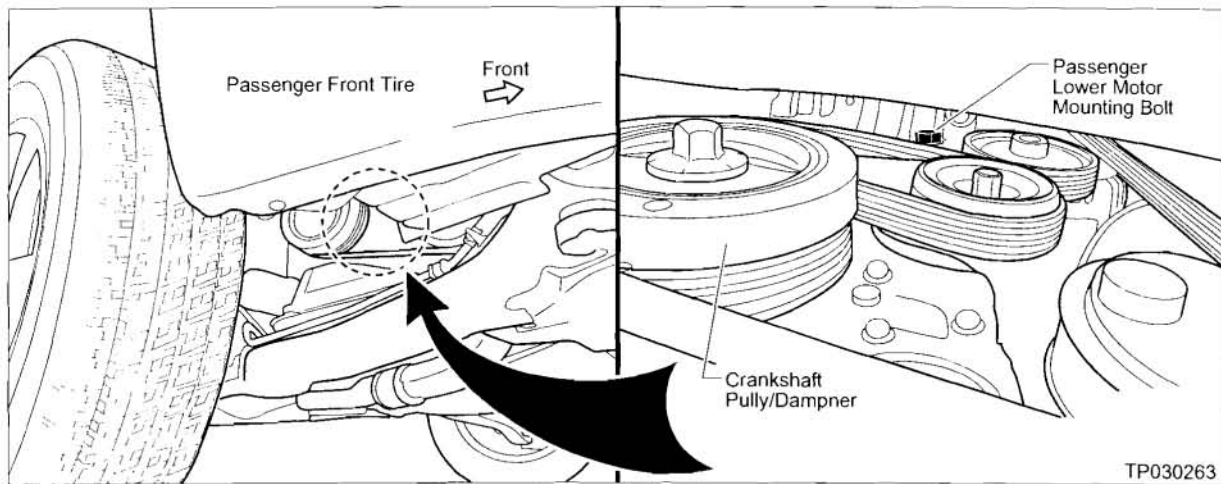

Figure F3
- The Passenger Side Lower Motor Mount Bolt can be difficult to see. Before you remove the engine, remember to remove this bolt (see Figure F3).